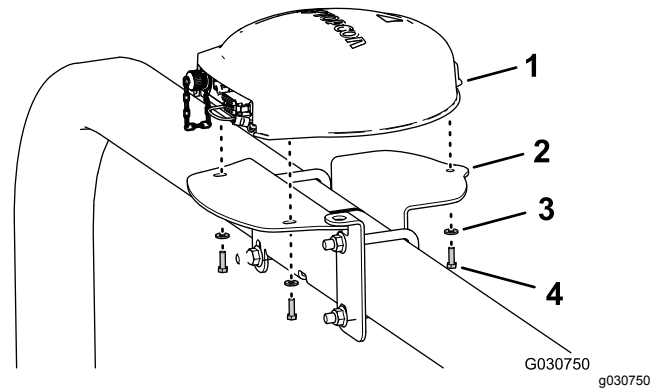

Figure 151
4. Align the 3 threaded in the base of the navigation receiver to the 3 holes in the receiver mount (Figure 151).
5. Assemble the receiver to the mount (Figure 151) with the 3 hex-head bolt (5 x 16 mm) and 3 washers (5 mm).